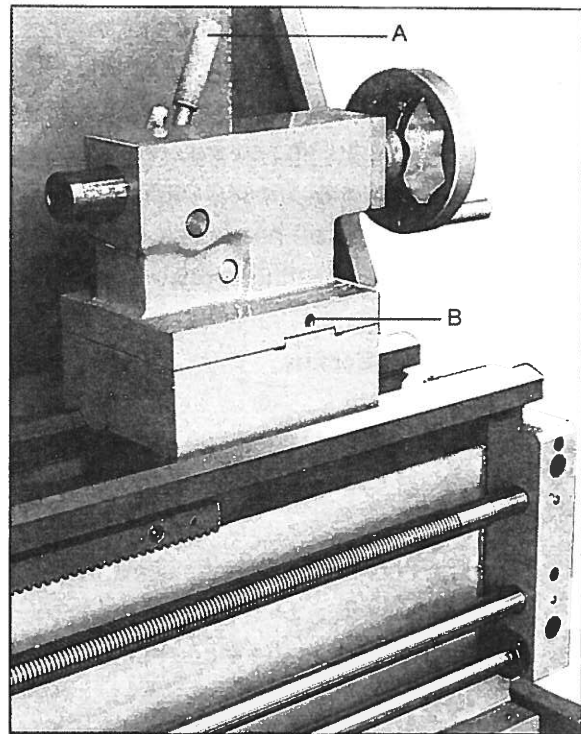

Fig. 19
1. Lock tailstock in position by raising clamping lever (A, Fig. 19).
2. Alternately loosen and tighten front and rear setscrews(B, Fig. 19) until desired offset is indicated on scale.
3. Tighten both set screws(B, Fig. 19).